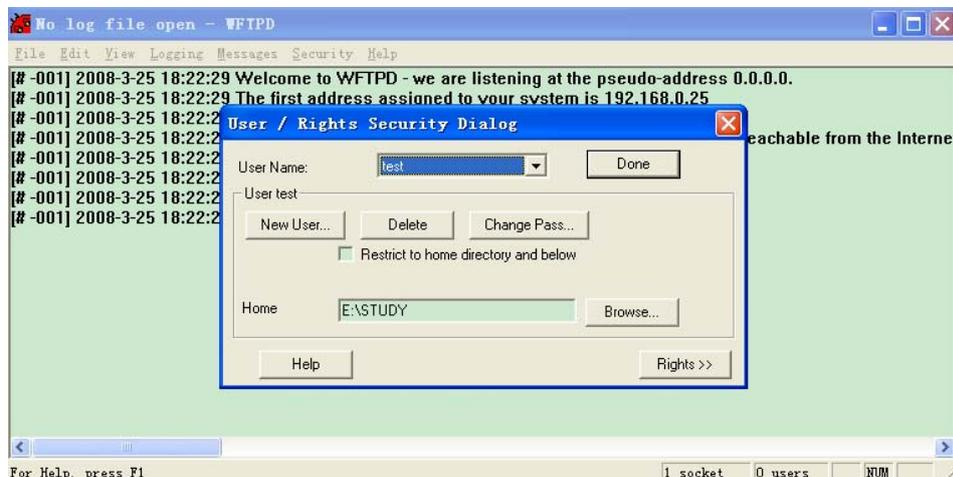

Figure D-2 WFTPD configure user name and password
2. Type in user name, password, main path; click on Security menu, click on Users/rights, click on the New User in the User/Rights Security Dialog window. As FigureD-2